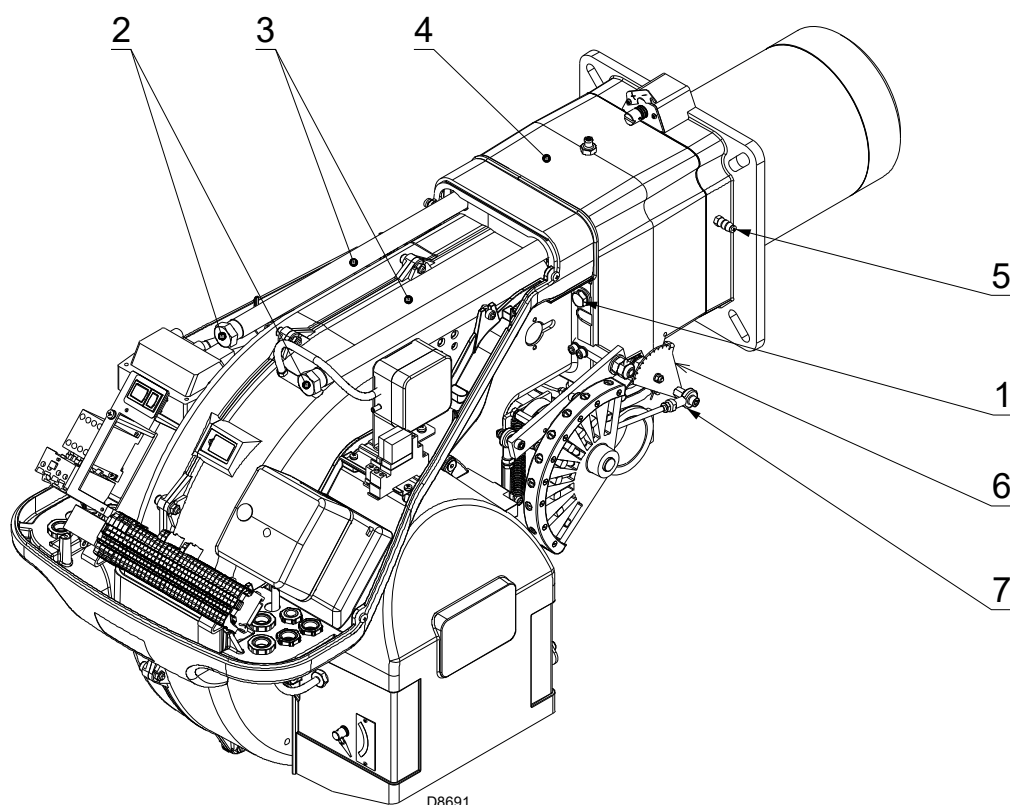

Fig. 15
- reassemble the burner on the guides 3) at about 100 mm from the pipe coupling 4) - burner in the position shown in Fig. 15;
- insert the probe and electrode cables, then slide the burner as far as the pipe coupling - burner in the position shown in Fig. 15;